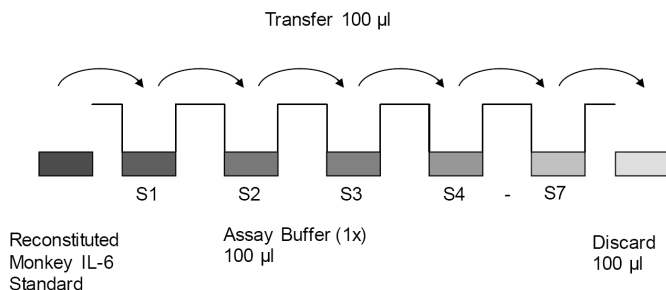

Fig. 6 Dilute standards - microwell plate
5. Repeat serial dilutions 5 more times thus creating the points of the standard curve (see Figure 6).
Add 100 µL of Assay Buffer (1x) in duplicate to all standard wells. Pipette 100 µL of prepared standard (see Preparation of Standard "Monkey IL-6 standard" on page 3, concentration = 240 U/mL) in duplicate into well A1 and A2 (see Table 1). Mix the contents of wells A1 and A2 by repeated aspiration and ejection (concentration of standard 1, S1 = 120 U/mL), and transfer 100 µL to wells B1 and B2, respectively (see Figure 6). Take care not to scratch the inner surface of the microwells. Continue this procedure 5 times, creating two rows of monkey IL-6 standard dilutions ranging from 120.0 to 1.9 U/mL. Discard 100 µL of the contents from the last microwells (G1, G2) used.